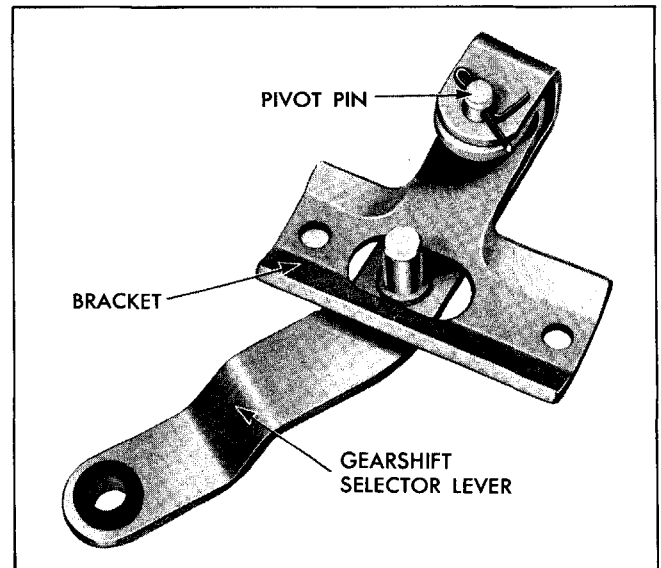

Fig. 7-13 Selector Lever and Bracket Assembly
4. On Synchro-Mesh models coat selector lever pivot pin with Lubriplate 105 and assemble selector lever to bracket. Install pivot pin so cotter pin is on side which will be against steering column jacket (Fig. 7-13).